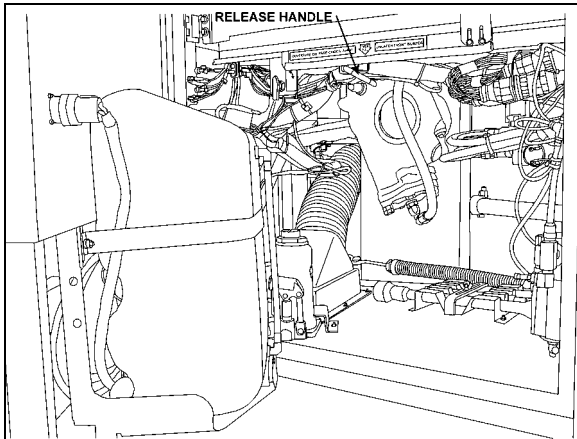

FIGURE 9: FRONT BUMPER RELEASE HANDLE 18613
- At the top of windshield, clean surface between fiberglass and rubber extrusion using Sika 205 (Fig. 9).